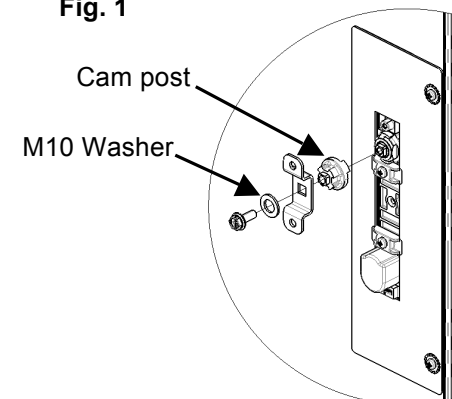

Fig. 2
6. Place the M10 washer over the Cam, push the cam onto the cam post and check swing handle operation direction (Fig. 2).